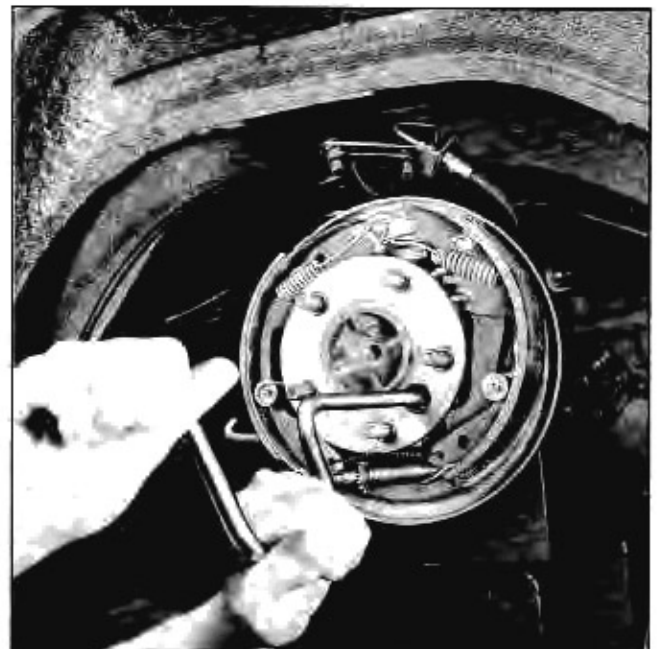

Fig. 3-32 Axle Shaft Flange Holes
4. Line up the hole in axle shaft flange with the nuts retaining backing plate to the lower control arm. Remove these four nuts and lock washers (Fig. 3-32).
end of control arm and push axle shaft inward until yoke is fully attached to U-Bolts. Install U-Bolt nuts and lock tabs. Torque nuts to 14-20 lb. ft. Install the lock washers and nuts through hole in axle shaft flange (Fig. 3-32). Torque nuts to 30-45 lb. ft.